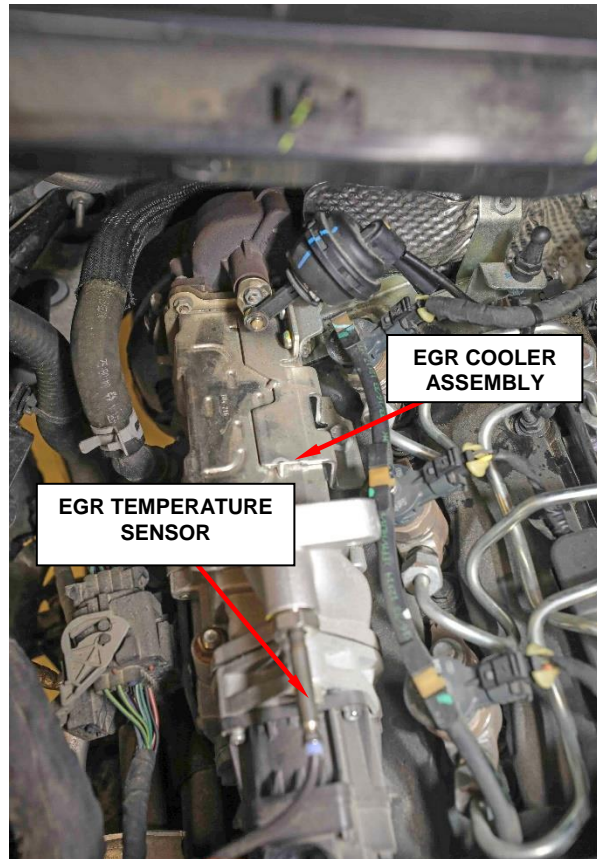

Figure 32 – EGR Cooler
13. Disconnect EGR temperature sensor wire harness connector (Figure 32).
28. Connect EGR temperature sensor wire harness connector (Figure 32).